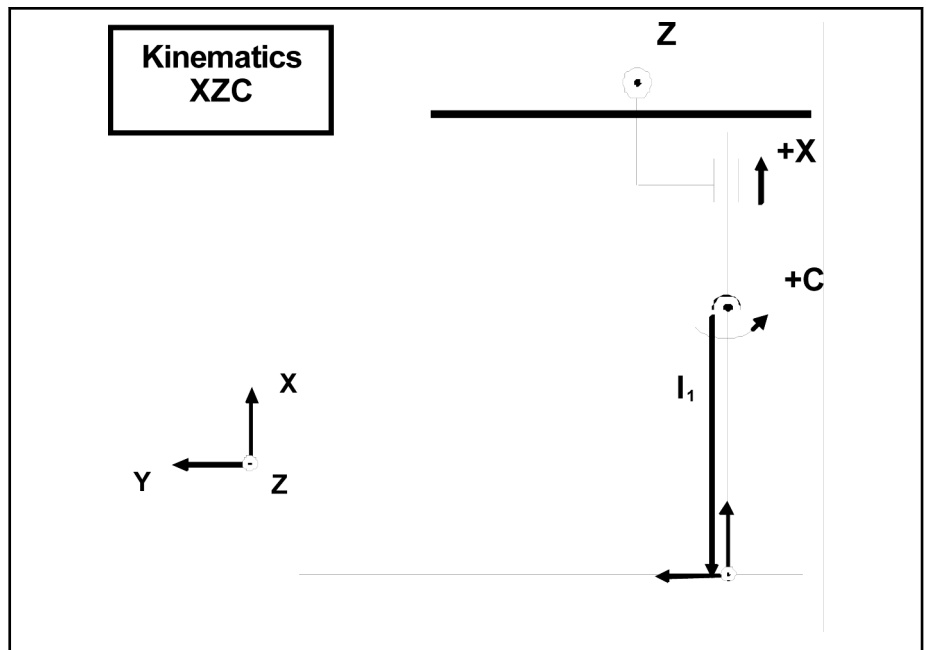
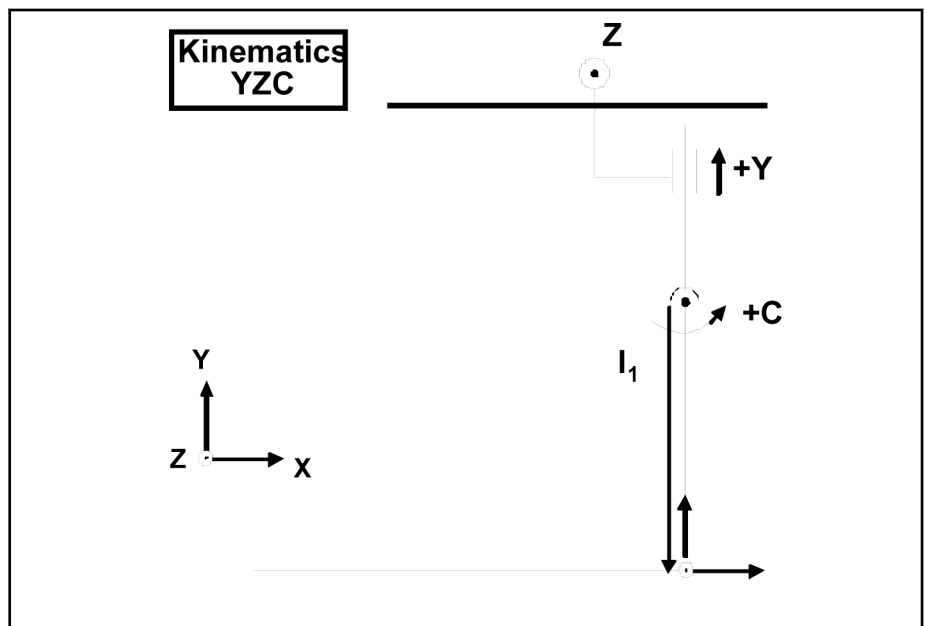

Fig. 11-98: XZC kinematics
Fig. 11-99: YZC kinematics
For this kinematics, the L_1 axis determines the x/X direction and the L_2 axis determined the z/Z direction of the input coordinate system. The y/Y direction of the input coordinate system is perpendicular to the other two resulting in a right-handed coordinate system. fig. 11-98 "XZC kinematics" on page 379 shows this kinematics for the point of action 2, i.e. with the BCS as input coordinate system.
For this kinematics, the L_1 axis determines the y/Y direction and the L_2 axis determined the z/Z direction of the input coordinate system. The x/X direction of the input coordinate system is perpendicular to the other two resulting in a right-handed coordinate system. fig. 11-99 "YZC kinematics" on page 379 shows this kinematics for the point of action 2, i.e. with the BCS as input coordinate system.
fig. 11-98 "XZC kinematics" on page 379 shows this kinematics if X is replaced by Y, Z by X, C by A, x by y, y by z, at the point of action 2
fig. 11-99 "YZC kinematics" on page 379 shows this kinematics if Y is replaced by Z, Z by X, C by A, y by z, x by y, at the point of action 2.
fig. 11-98 "XZC kinematics" on page 379 shows this kinematics if X is replaced by Z, Z by Y, C by B, x by z, y by x, at the point of action 2.
fig. 11-99 "YZC kinematics" on page 379 shows this kinematics if Y is replaced by X, Z by Y, C by B, y by x, x by z, at the point of action 2.
fig. 11-98 "XZC kinematics" on page 379 and fig. 11-99 "YZC kinematics" on page 379 show the axis transformations in reference position.
The distance between the R_1 axis and the tool reference point for the kinematics XZC is specified by MP 103000140 (1), as the respective distance vector of the R_1 axis to the tool reference point in the reference position (fig. 11-98 "XZC kinematics" on page 379) is oriented parallelly to the x/X direction of the input coordinate system. MP 103000140 (1) can be specified as either positive or negative value.
fig. 11-98 "XZC kinematics" on page 379 describes the case scenario MP 103000125 (1) > 0 and MP 103000140 (1) < 0.
Correspondingly, this distance for the kinematics XZC is specified by MP 103000140 (2) (fig. 11-99 "YZC kinematics" on page 379), for YXA by MP 103000140 (2), for ZXA by MP 103000140 (3), for ZYB by MP 103000140 (3) and for XYB by MP 103000140 (1).